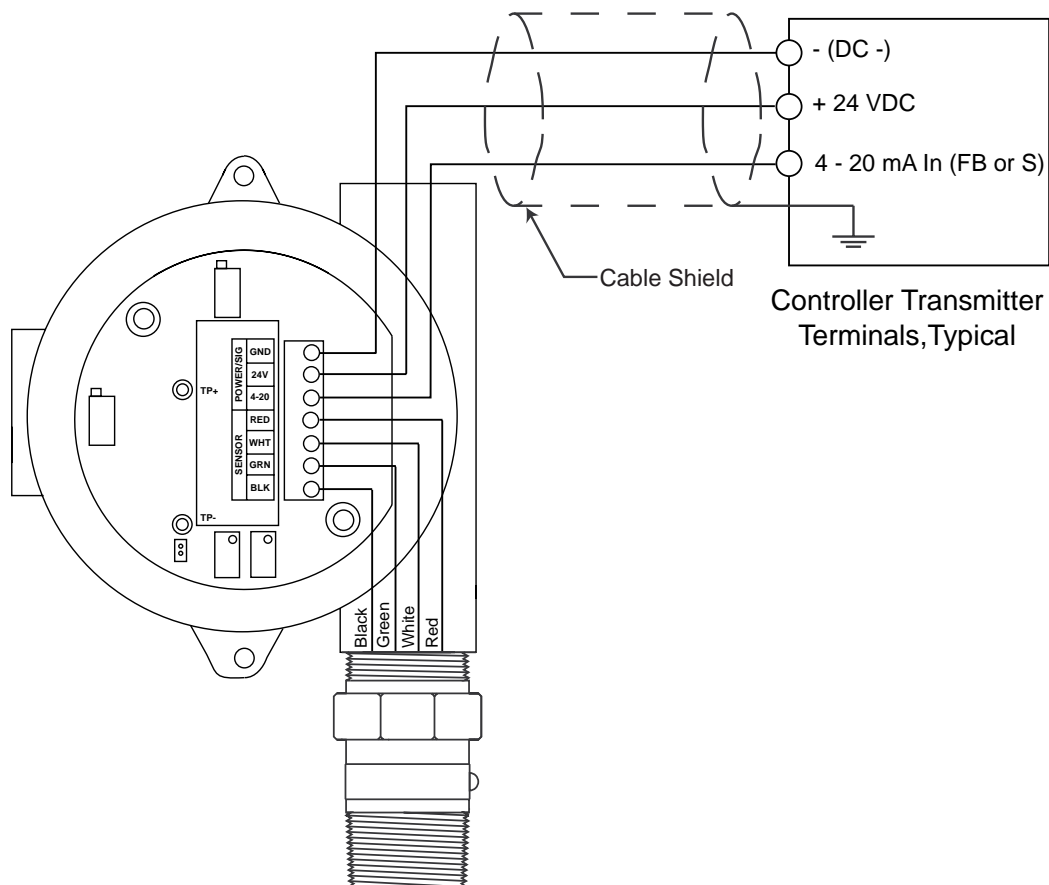

Figure 3: Wiring the CO₂ Transmitter to a Controller
4. Verify that the detector leads are wired to the amplifier's interconnect terminal strip. If necessary, connect the detector leads to the interconnect terminal strip as shown in Figure 3.
6. Connect the three wires to the interconnect terminal strip as follows (see Figure 3).
- Connect the feedback wire to the **4-20 (FB)** terminal.
9. Connect the wires to the applicable transmitter terminal strip at the controller as shown in Figure 3 below.
7. Connect the detector leads to the interconnect terminal strip as shown in Table 4 below and Figure 3 on page 6 of this manual.